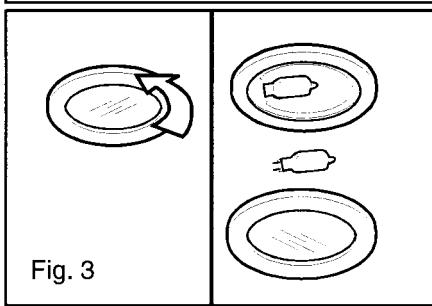

Fig. 3
#### Replace Lights For Models HDW, HGSW, HCSW30/36/42 (Fig. 3)
- Using a flat edge from a screwdriver or equivalent tool pry loose the lens cover as shown in Figure 3.